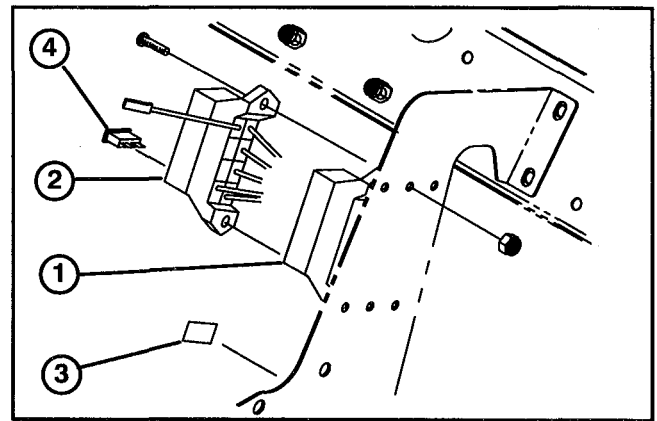

Figure 4
18. Secure harness's to vehicle wire harness with (2) cable ties. Harness must not interfere with operation of brake pedal return spring or any moving parts.
19. Remove screws securing vehicle fuse block to frame (Fig. 4).
20. Slide new fuse block assembly onto front of existing vehicle fuse block (Fig. 4).
21. Mount fuse blocks to vehicle frame with fasteners previously removed and (2) new screws and locknuts (Fig. 4).
22. Affix 20 Amp decal to any unused circuit on vehicle fuse block decal (Fig. 4).